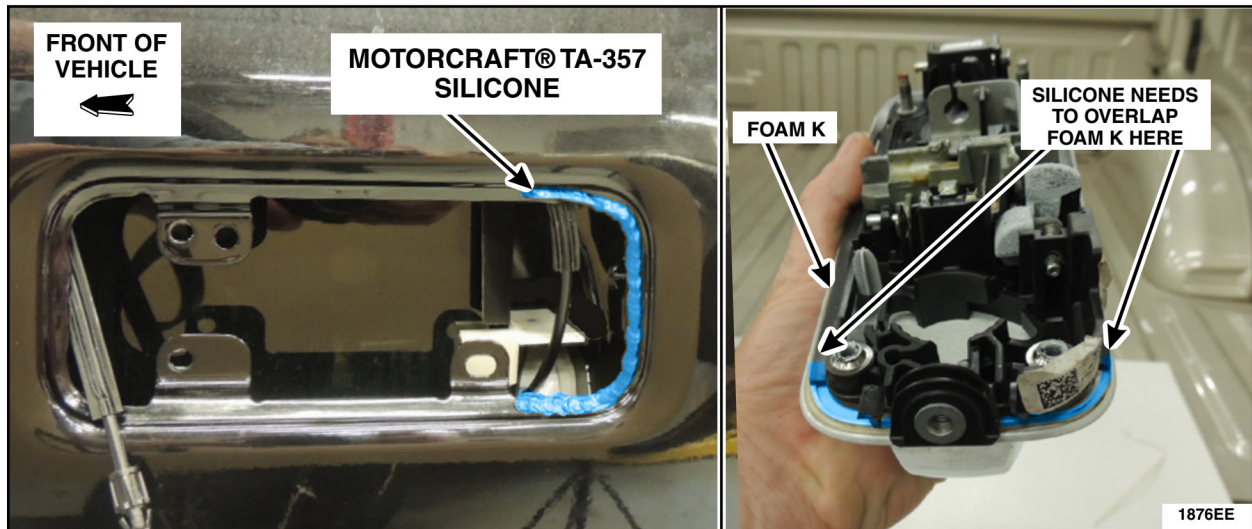

FIGURE 57
38. Apply a bead of Motorcraft® TA-357 High Performance Engine RTV silicone to the latch side area of the rear door exterior handle opening metal surface. Make sure that the silicone will overlap with the foam K on the exterior door handle. See Figure 57.